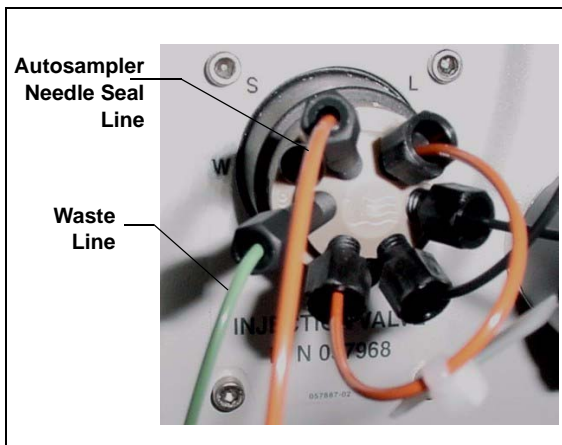
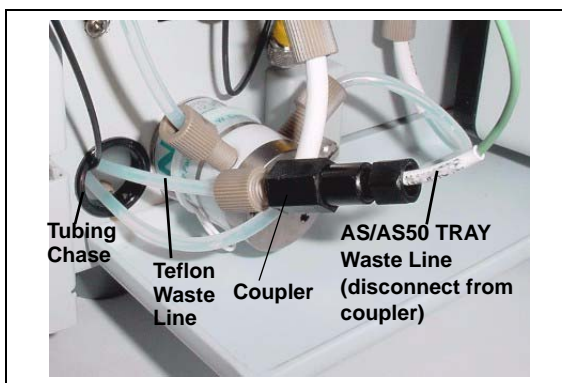

Figure 105. ICS-2000 Injection Valve
Figure 106. Injection Valve Waste Line Coupler
4. Connect the needle seal line from the autosampler to port **S (5)** on the injection valve (see Figure 105).
The green waste line that is connected to port **W (6)** on the injection valve (see Figure 105) is connected with a coupler to a Teflon waste line (see Figure 106) and routed through the tubing chase to the ICS-2000 rear panel.